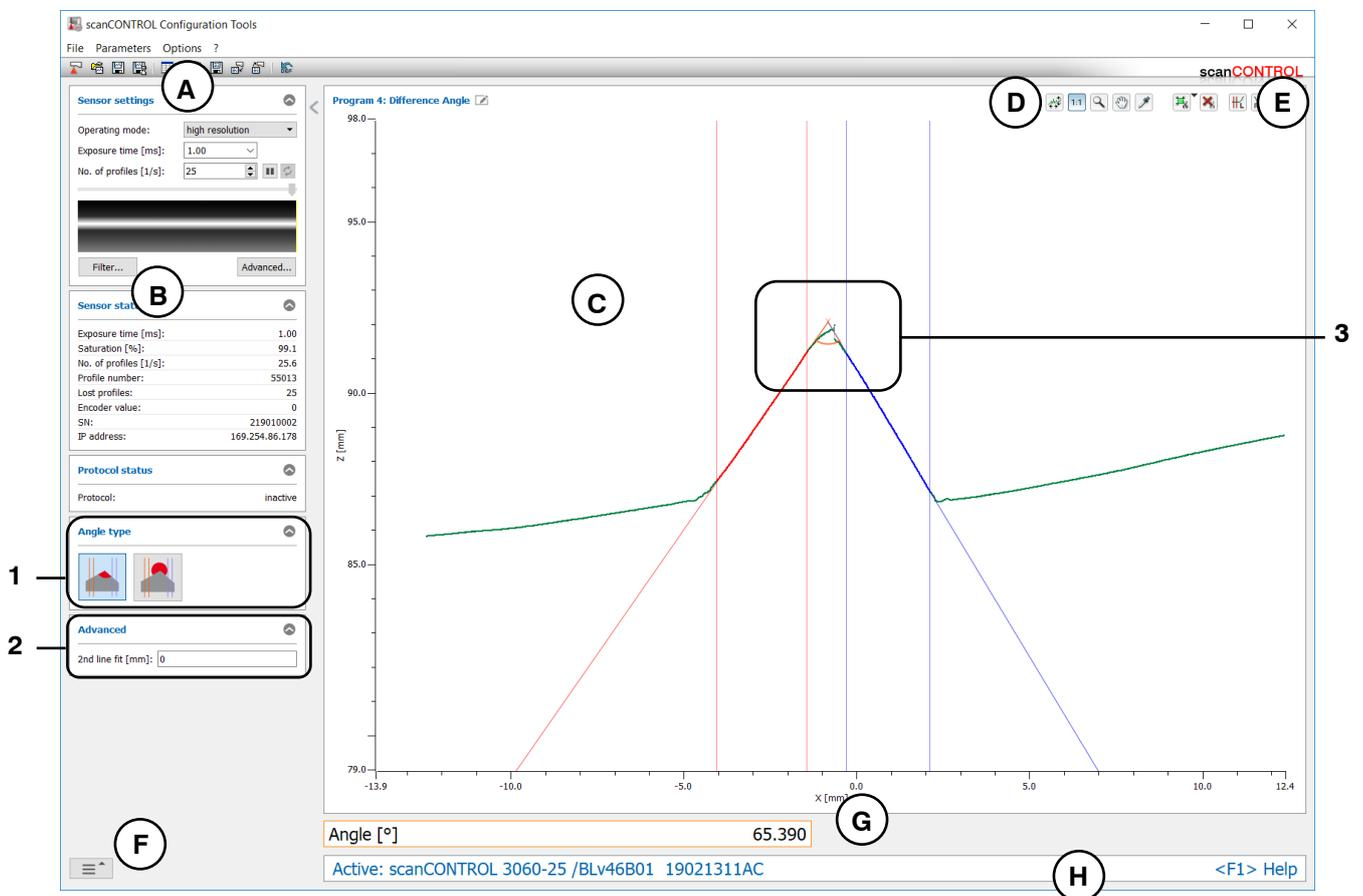

Fig. 4.10: "Difference Angle" measuring program
- Define how the angle between both lines is calculated (angle between left and right range  or angle between right and left range , see Fig. 4.10 and Chapter 3.13.1).